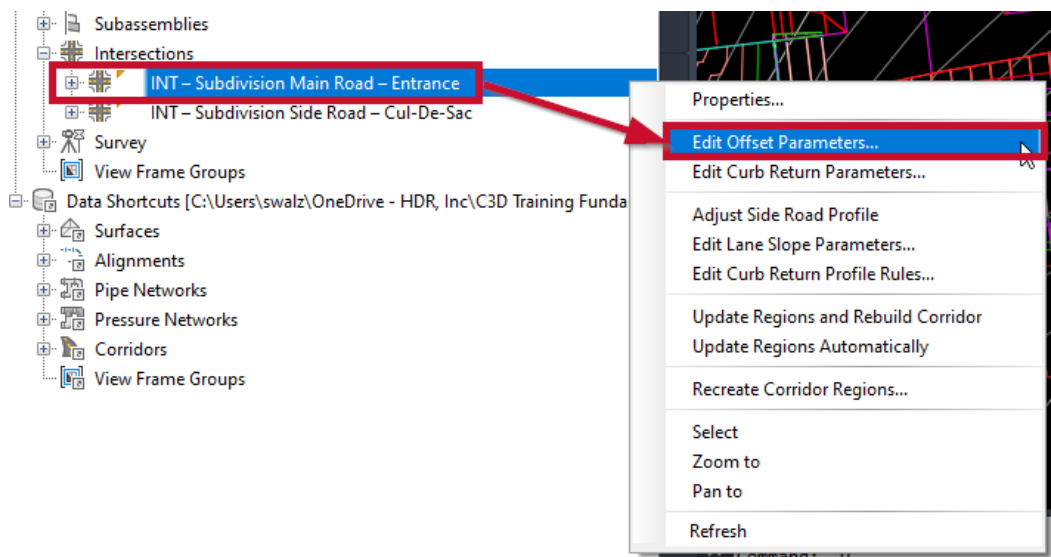

Figure 3.3 – Edit the offset parameters of intersections
2. Once expanded, go ahead and right-click with your mouse on the **INT – Subdivision Main Road – Entrance** and select **Edit Offset Parameters...** (as shown in *Figure 3.3*).